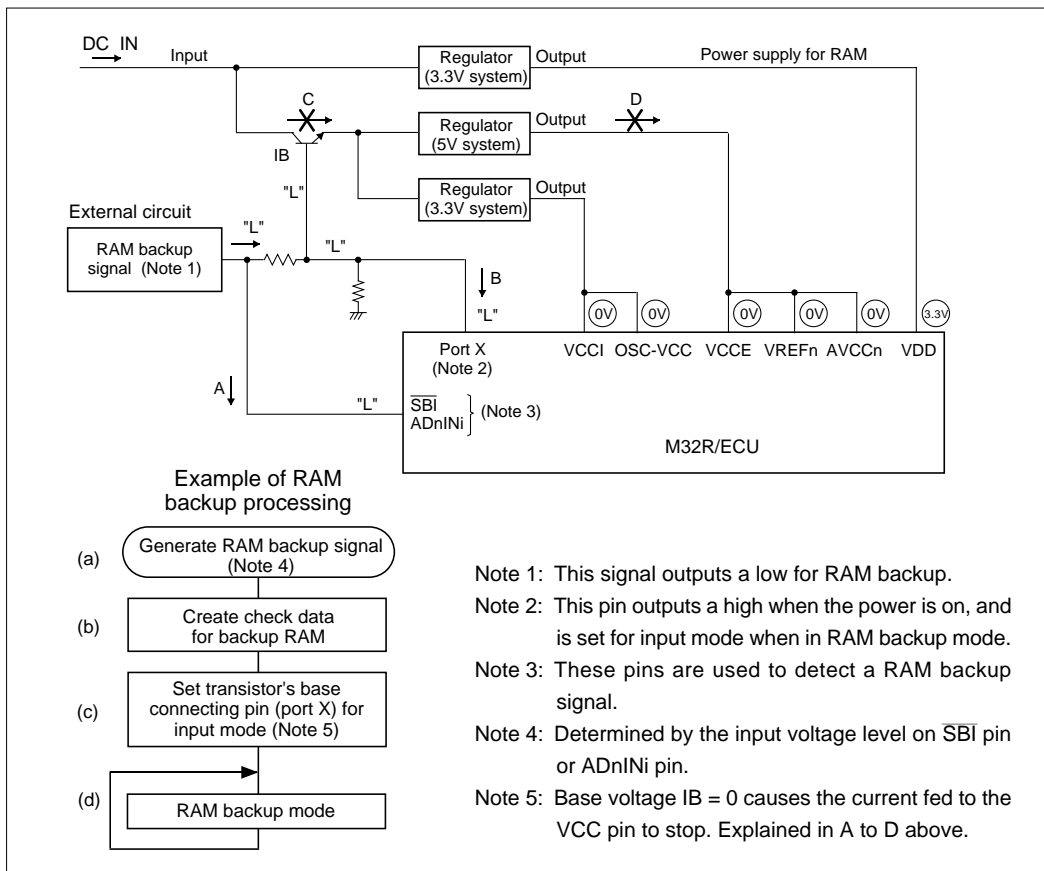
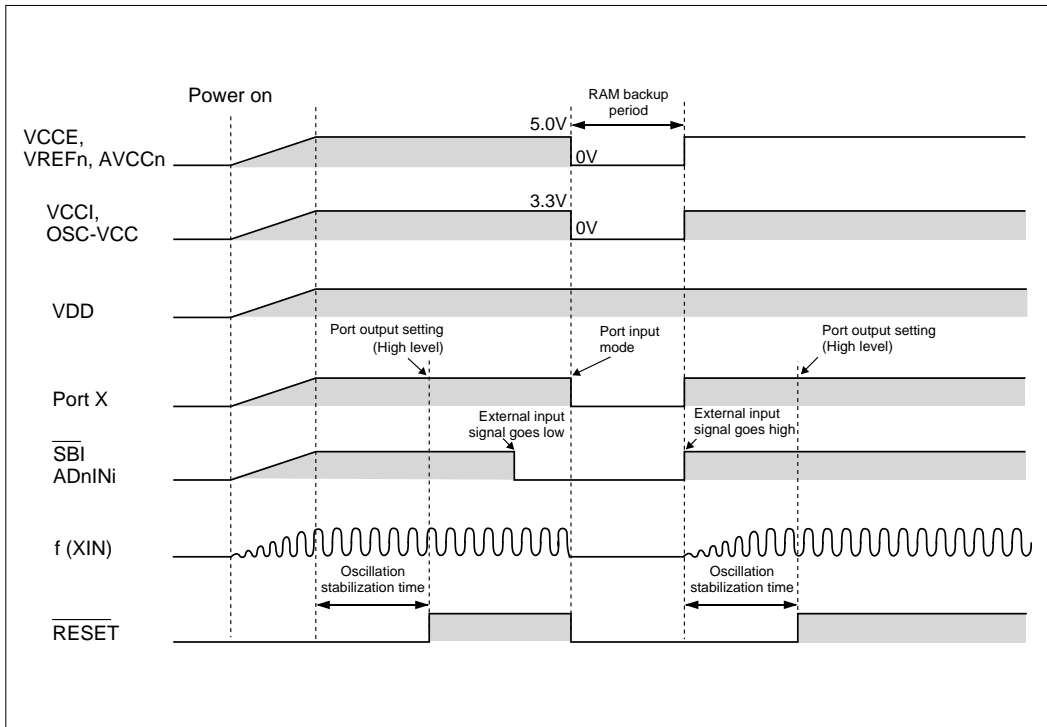

Figure 17.3.3 RAM Backup State for Low-Power Operation
Figure 17.3.4 Example of RAM Backup Sequence for Low-Power Operation
Figure 17.3.3 shows the RAM backup state of the M32R/ECU. Figure 17.3.4 shows a RAM backup sequence. When the external circuit outputs a low, input on the $\overline{\text{SBI}}$ pin or ADnINi pin goes low. A low on these input pins generates a RAM backup signal (A and (a) in Figure 17.3.3). To enable RAM backup mode, make the following settings.
- (1) Create check data to verify after returning from RAM backup to normal mode whether the RAM data has been retained normally ((b) in Figure 17.3.3).
- (2) To materialize low-power operation, set all programmable input/output pins except port X for input mode (or for output mode, with pins outputting a low) ((c) in Figure 17.3.3).
- (3) Set port X for input mode (B and (d) in Figure 17.3.3). This causes the transistor's base voltage, IB, to go low, so that no current flows from the power supply to the VCC pin via the transistor (C in Figure 17.3.3). Consequently, the power to the VCC pin is shut off (D in Figure 17.3.3).
Due to settings in (1) to (3), the voltage applied to the VDD pin becomes $3.3\text{ V} \pm 10\%$ and voltages applied to all other pins drop to 0 V, thus placing the M32R/ECU in RAM backup mode ((d) in Figure 17.3.3).